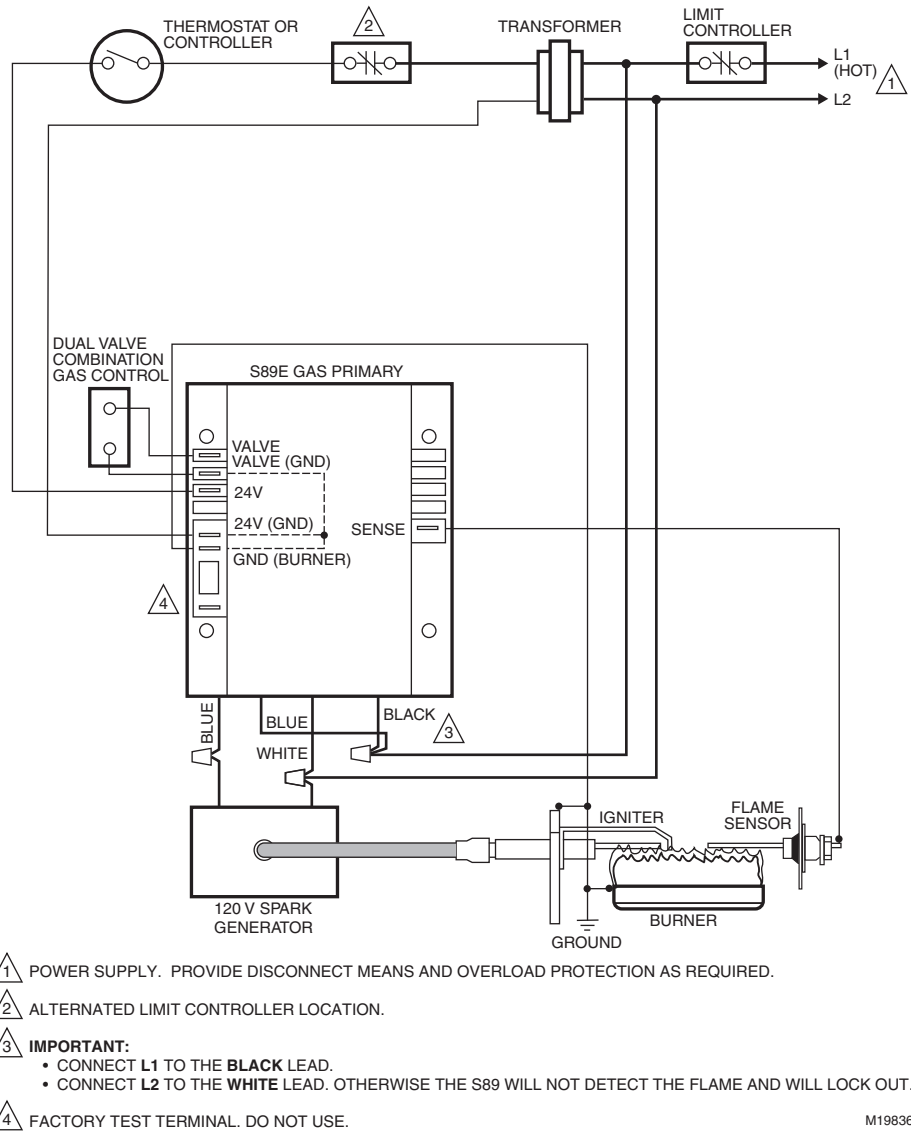

Fig. 2. S89E typical hookup in direct spark control system. See Fig. 8 for control system ladder diagram.
1. Make sure the transformer has adequate power (VA) rating. See Table 1 in Specifications section.
3. Wire system components and S89 as shown in Figures 2 and 3. Refer to appliance manufacturer instructions for connections to other auxiliary controls.